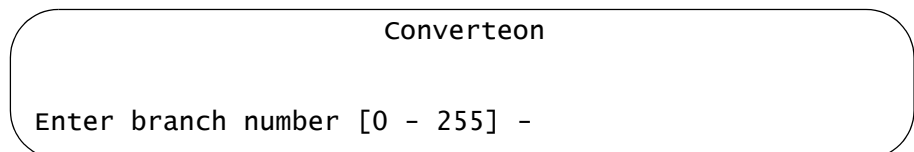

Figure 102. Enter Branch Number Prompt
5. From the OAM Configuration Menu, select **Send OAM Variable Request**. The prompt in Figure 102 is displayed.